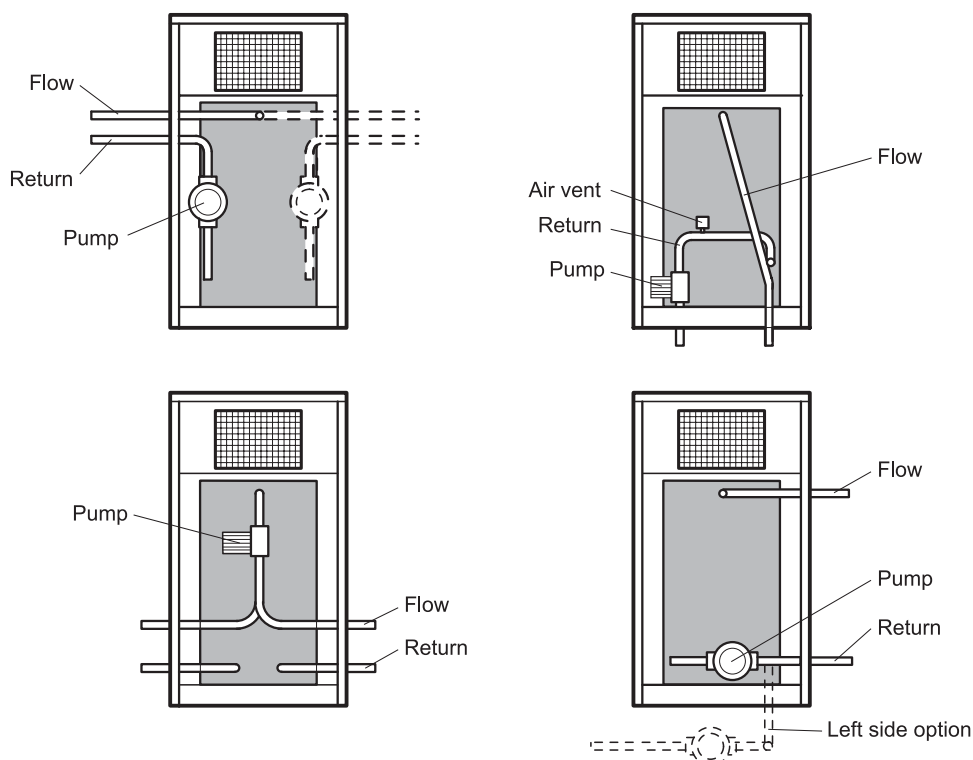

Fig. 13 - 50/70, 70/90 and 90/120 Water connections
- 1 Pipework connections are provided on the rear of the boiler (i.e. inside the enclosure on the opposite side of the boiler to the burner). These connections are accessed by removing the back panel of the enclosure, below the low level flue outlet. See Fig. 13 or 13a for details of the different connection arrangements.
- 1 One high level flow and two low level return 1" BSP connections are provided on the rear of the boiler (see Fig. 13). A 1" BSP plug is supplied for the second return connection, if not used.
See Fig. 13 or 13a